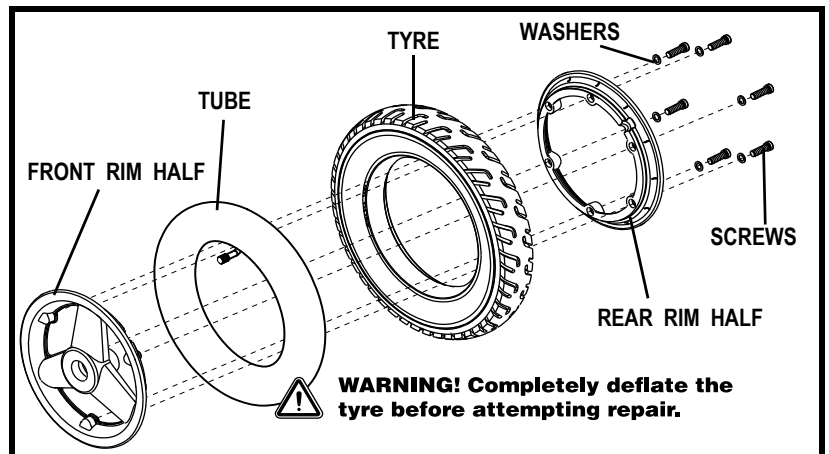

Figure 26. Artemis Drive Wheel Disassembled
6. Remove the screws and washers and separate the front and rear rim. See figure 26.